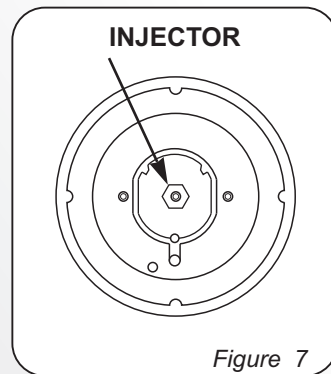

Figure 7
- Insert on hexagonal spanner (7 mm) into the burner support (*Figure 7*)